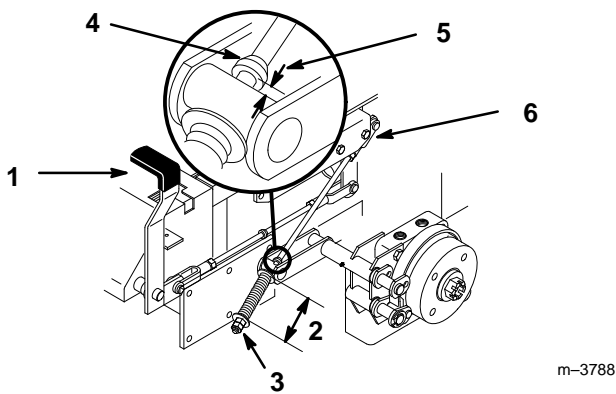

Figure 41
2. Measure the length of the spring. Measurement should be 2.75" (70 mm) between washers (Fig. 41).
3. If adjustment is necessary, loosen the jam nut below the spring and tighten the nut directly below the yoke (Fig. 41). Turn the nut until the correct measurement is obtained. Tighten the two nuts together and repeat on opposite side of unit.
6. Measure the distance between the trunnion roller and the collar on brake rod . Measurement should be 3/16"-1/4" (5-7 mm) (Fig. 41).
7. If adjustment is necessary, loosen the jam nut directly below the yoke. Turn the bottom rod until the correct measurement is obtained (Fig. 41). Tighten jam nut at yoke